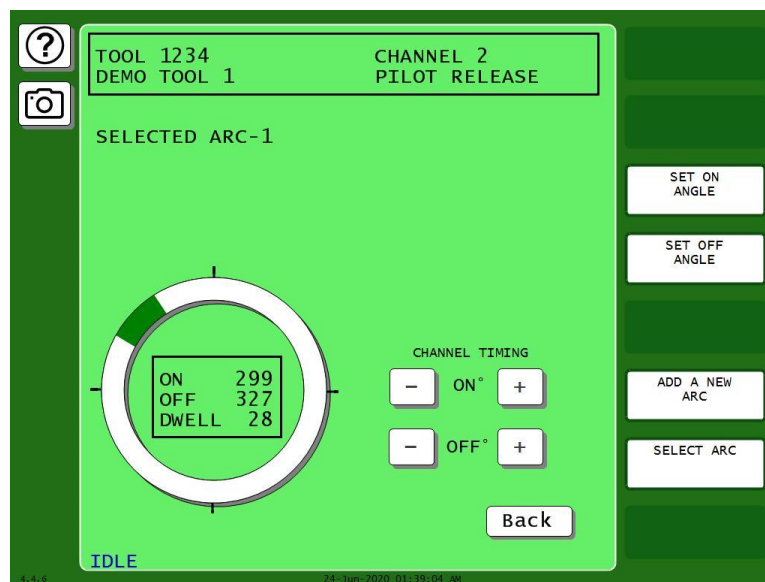

Figure 7-10. Cam Channel On/Off Program Screen: One On/Off Arc
1. Make the first On/Off setting as instructed in *Making an ON/OFF Setting*, page 220. Figure 7-10 shows the Cam Channel On/Off Program screen set for an On angle of 299° and an Off angle of 327°. Note the caption at the upper left of the screen indicating that Arc 1 is selected.